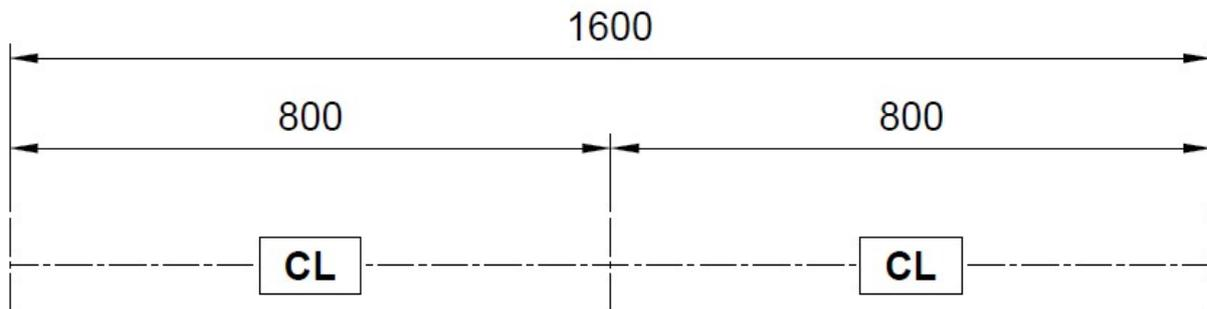

Figure 4: Marking the floor: Step 1
- 4.5. With a chalk line, measure the position as shown in *Figure 4*. The centre of the 1600mm length will be the centre of the turnstile. The edges of the 1600mm length will be the outer edges of the turnstile. The dashed line shows the chalk outlines required.